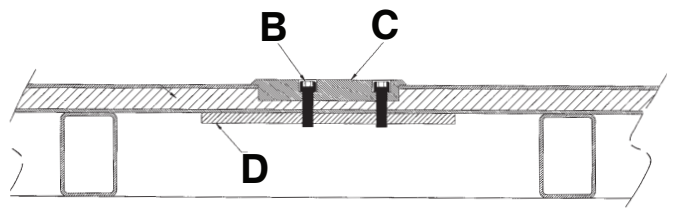

Figure 10 – Anchor floor plate into recessed openings
4. Using two 3/8 in. diameter socket head cap screws (B), preferably grade 8, anchor each floor plate (C) into the recessed openings with the counter-bored holes facing up (Figure 10).
Note - Steel backing plates (or equivalent) (D) (not supplied) are required for added support (Figure 10).